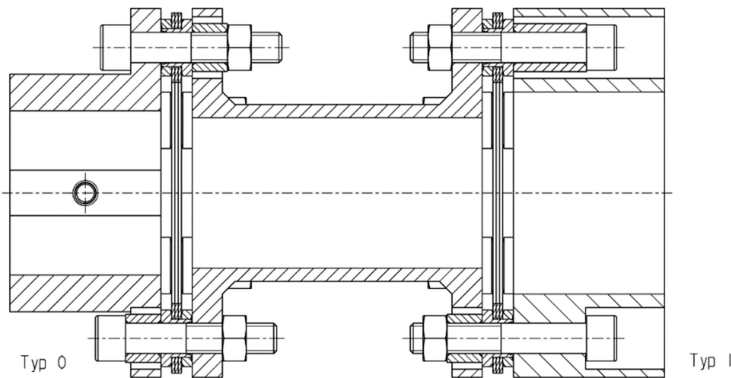

Figure 9.2: Assembly of RDL...DSZ
4. Insert the disc pack between the hub and spacer as shown in figure 9.2.
5. Put the spacer sleeve (item 4) onto the screws (item 6) and guide it through the large bore in the hub, disc pack and the spacer.